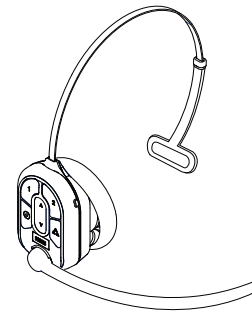

Fig. 1.2
- **Headset:** The headset allows you to communicate with other crew members within a store and/or with customers in a drive-thru lane environment. (Fig. 1.2.)